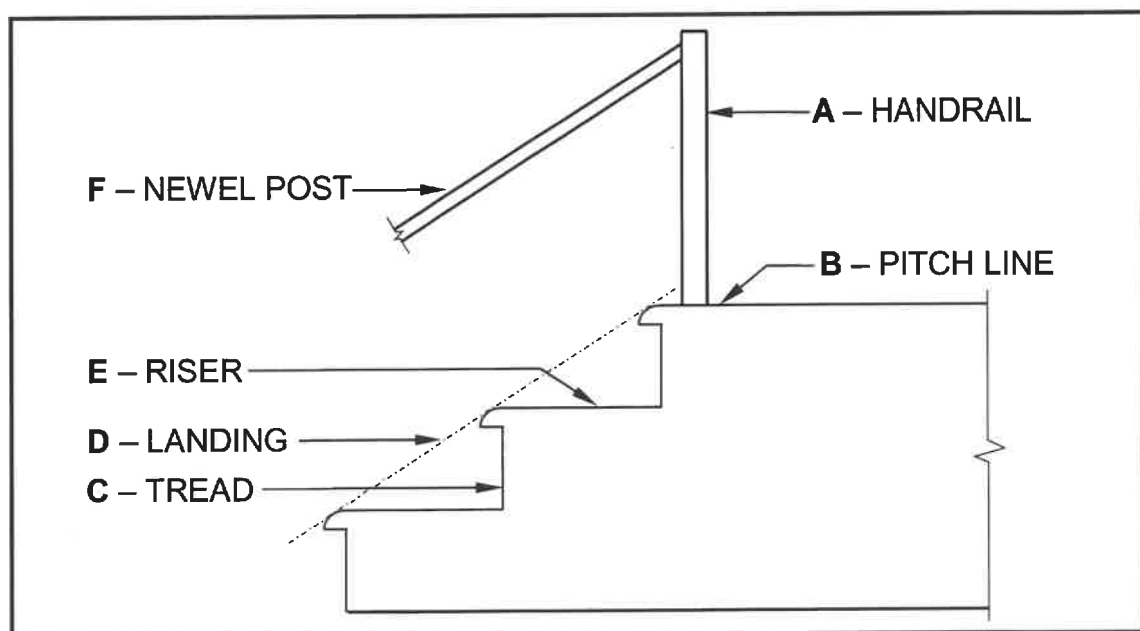

FIGURE 6.5
- 6.5 FIGURE 6.5 below is an illustration of a staircase with INCORRECT labels. Rearrange and give the correct labels for **A** to **F**.